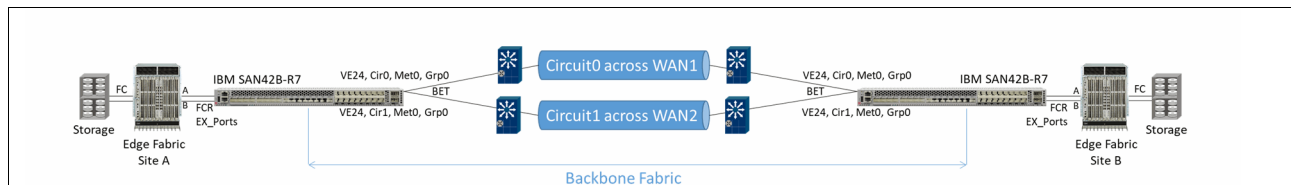

Figure 8-6 Edge-backbone - Edge extension with FCR
- ▶ An edge-backbone-edge architecture with FCR in which edge fabrics bookend a transit backbone fabric; see Figure 8-6 below. The backbone fabric has EX_Ports that are outward-facing to the edge fabrics. Extension is located within the backbone fabric using VE_Ports to communicate across the WAN.